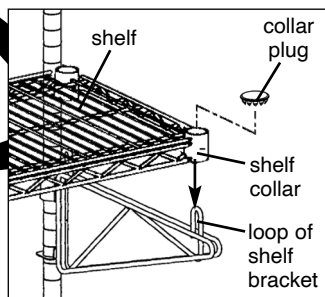

figure 6
- Lay shelf* on top of wall brackets, and cover shelf collar openings with collar plugs (see figure 6).
- Lay each shelf* on top of wall brackets, and cover shelf collar openings with collar plugs (see figure 6).